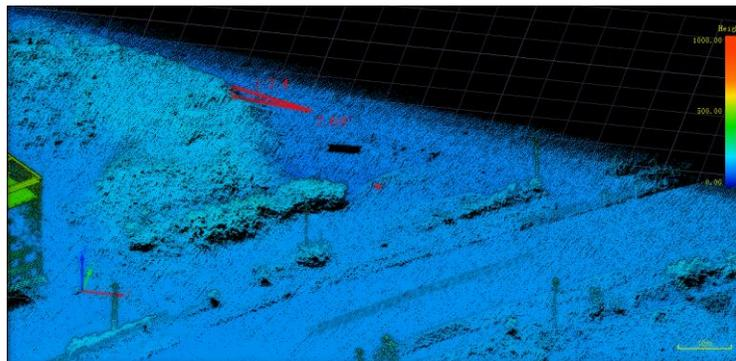

Figure 3-99 Measure the slope
- (1) Click the menu <Tools> → <Measure Slope>.
- (2) Click the left mouse button to select the two points that need to calculate the slope, draw the slope line (Figure 3-99), the drawn slope value is displayed in real time on the view.
- (3) Cancel: click <Measure Slope> again.